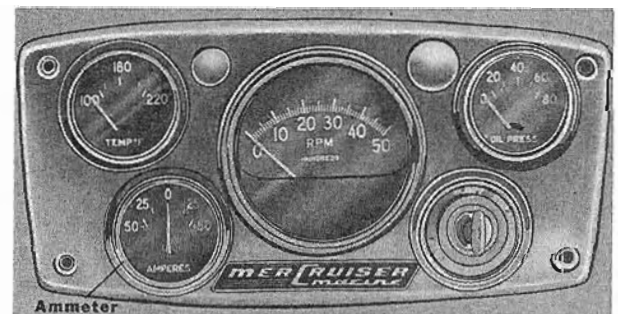

Figure 2
2. Instrument Panels Which Have Ammeter (Figure 2)